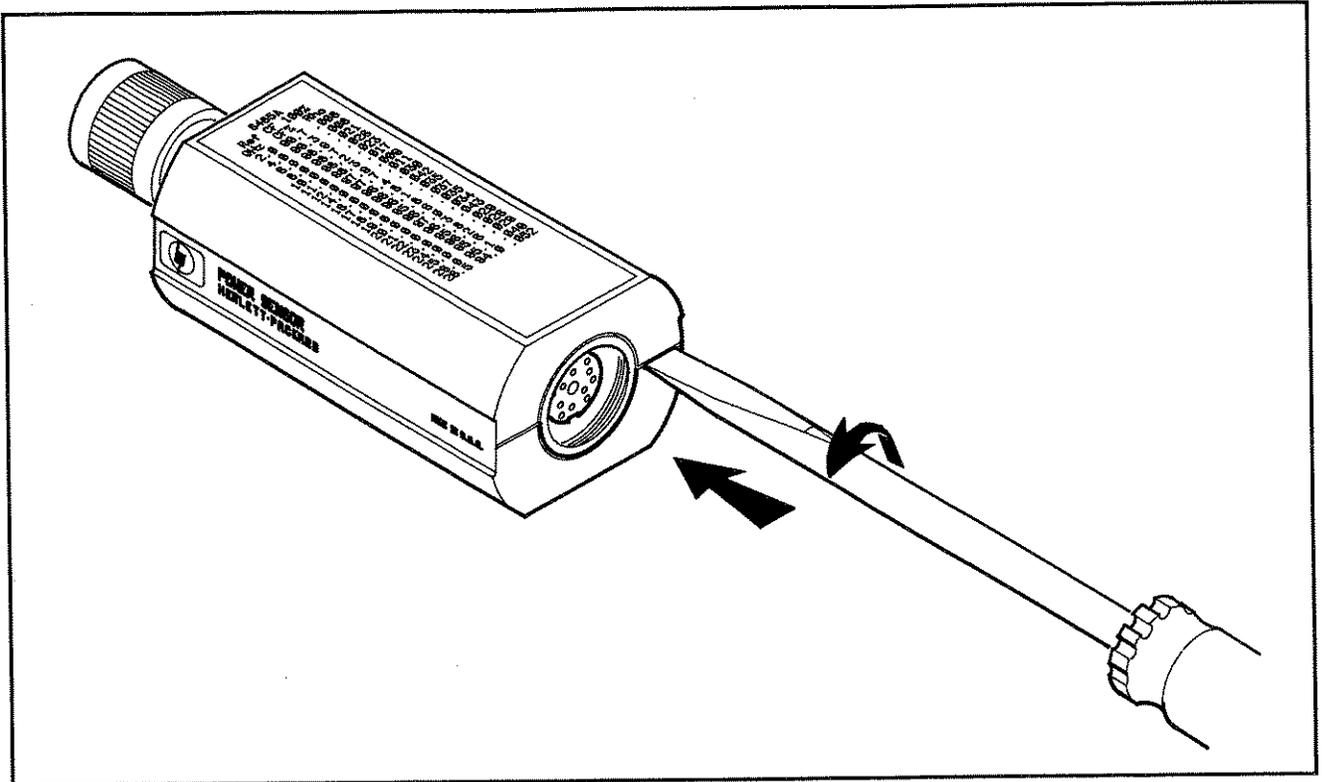

Figure 7. Removing the Power Sensor's Cover
1. Insert the blade of a large screwdriver between the two-piece plastic shell at the rear of the Power Sensor. Gently pry the sections apart. (See Figure 7.)